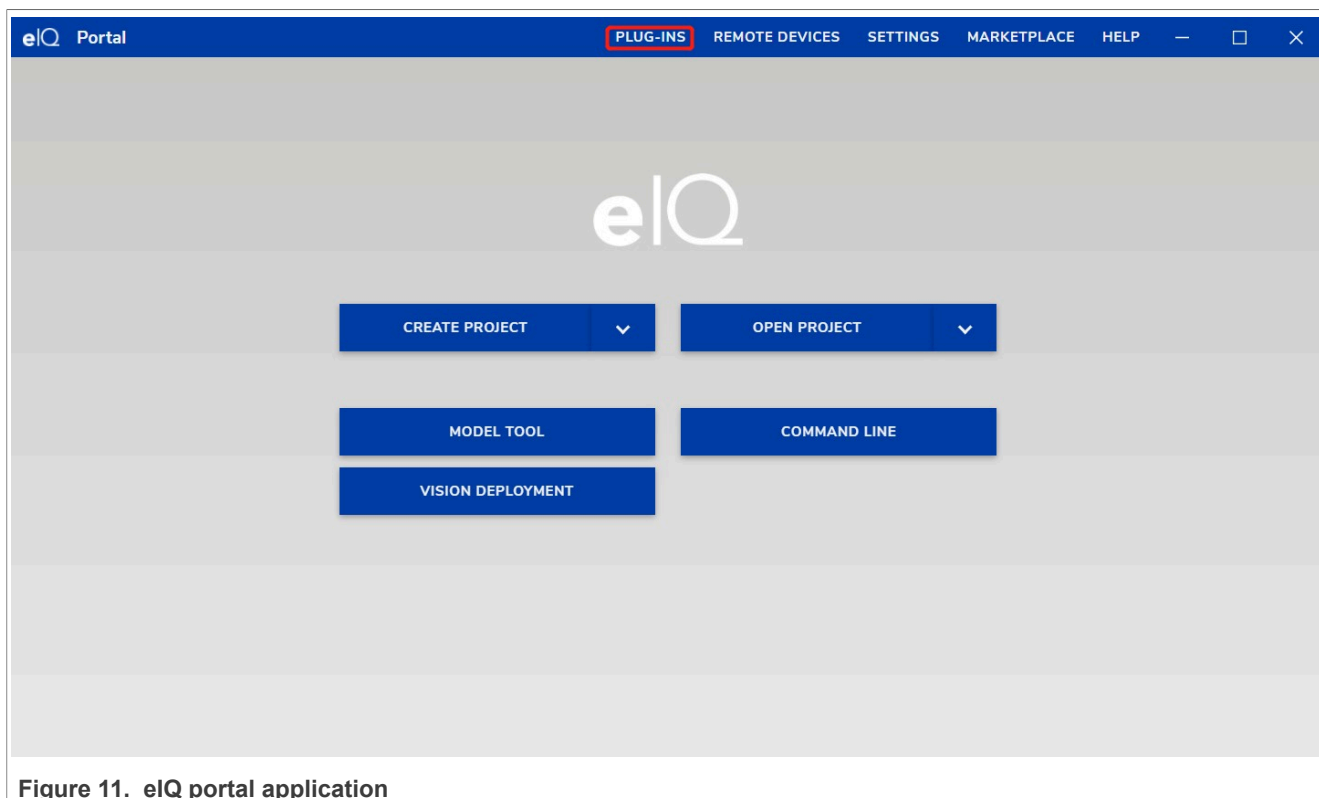

Figure 11. eIQ portal application
- 1. Open the eIQ portal application and click the **PLUG-INS** button on the top as shown in Figure 11